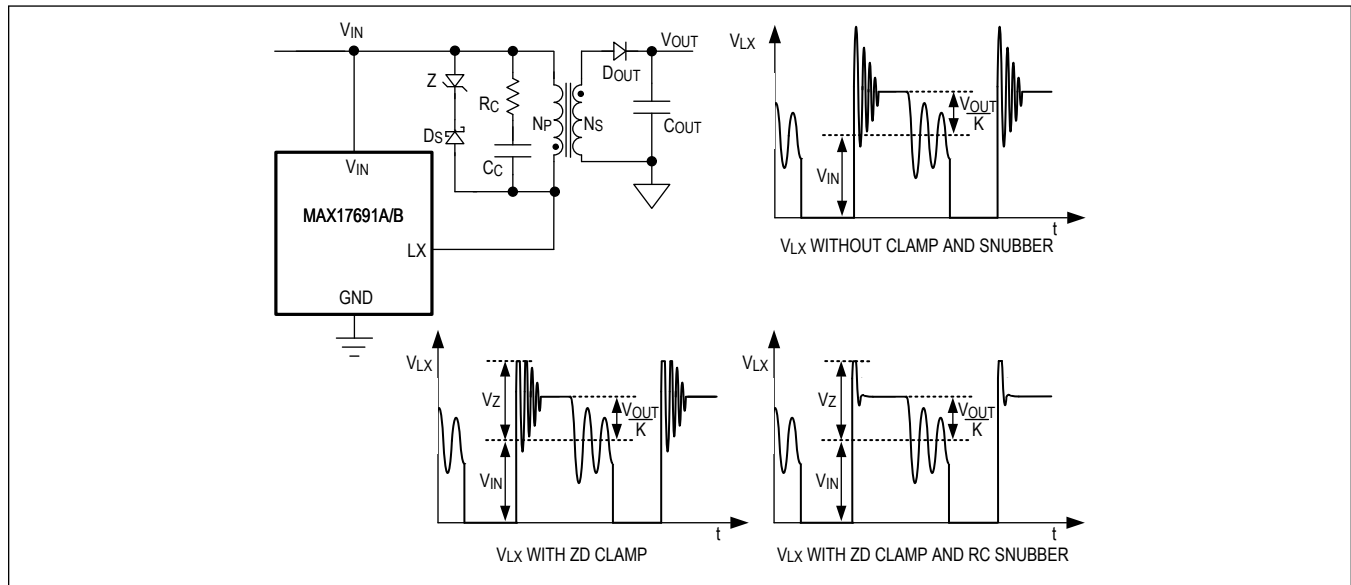

Figure 9. Voltage Clamp Circuit
A simple Zener-diode (ZD) clamp can be used as a voltage-clamp circuit. Figure 9 shows the operating waveform of the ZD clamp. Ideally, the ZD breakdown voltage should be selected to be the same as the V_{CLAMP} . However in practice, the ZD breakdown voltage should be 5V to 10V below the V_{CLAMP} to accommodate any additional voltage spike due to parasitic inductance in the clamp-circuit path, such that the LX voltage does not exceed 76V. A 0.25W power rating ZD satisfies most applications.